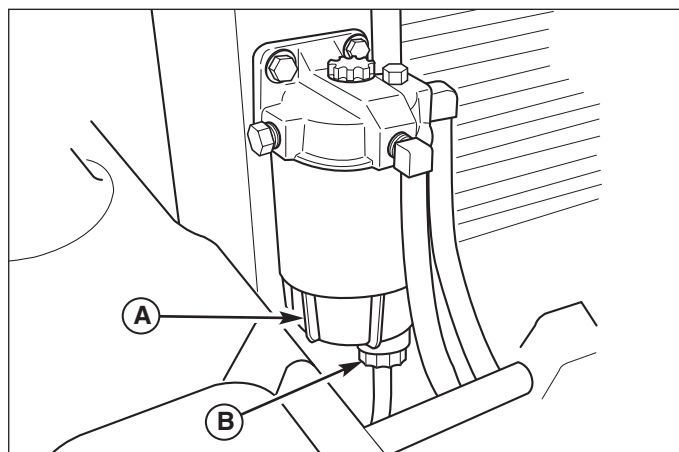

Figure 13. Drain Fuel Filter
3. Place a container under the fuel filter tube and turn the drain valve (B, Figure 13) approximately 1 turn.